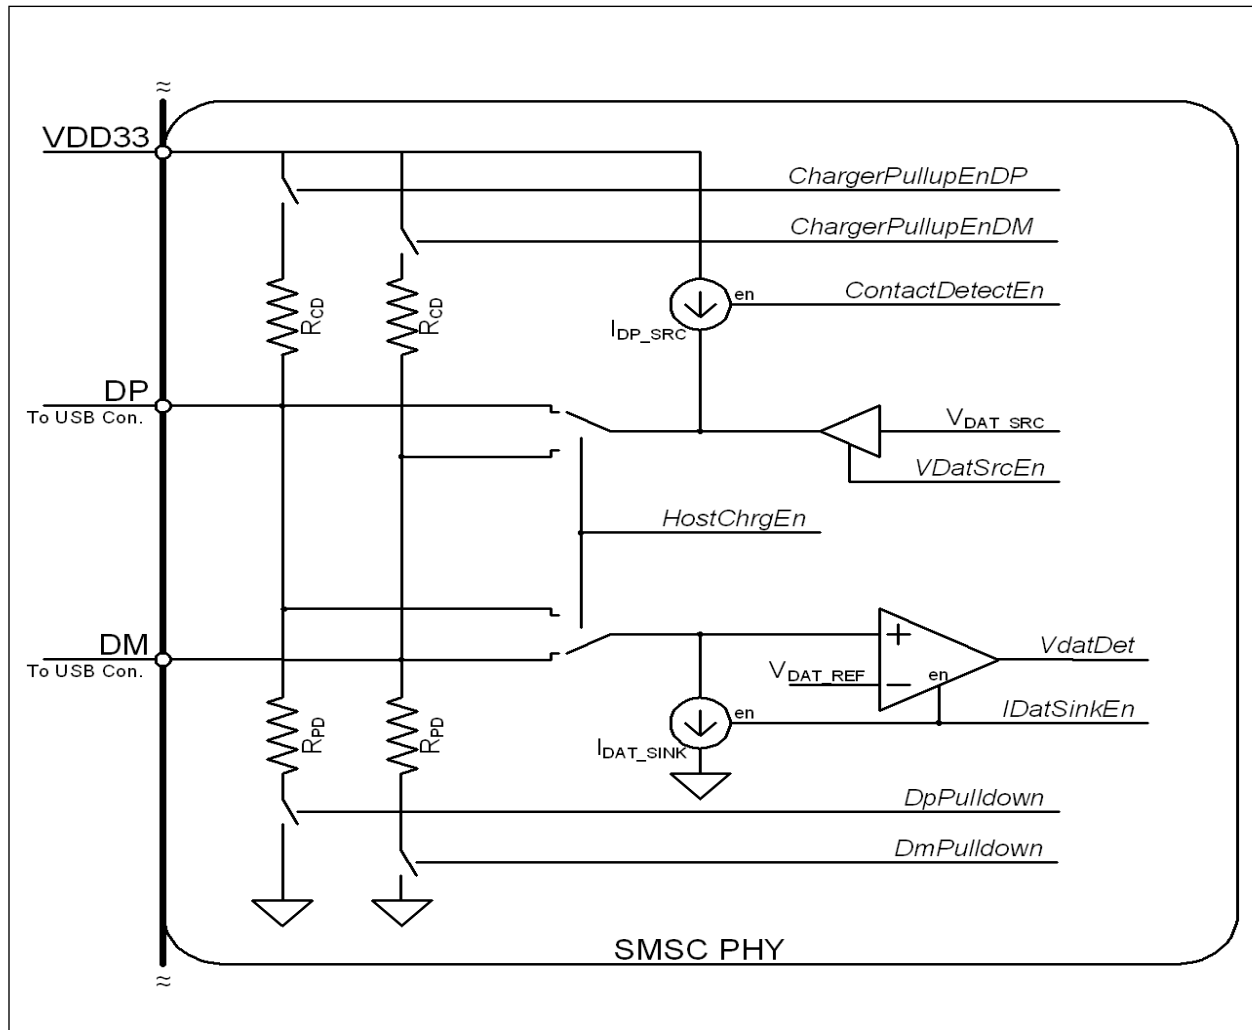

Figure 5.9 USB Charger Detection Block Diagram
**Note:** The *italic names* in the Figure 5.9 correspond to bits in the ULPI register set.
The charger detection circuitry is shown in Figure 5.9.